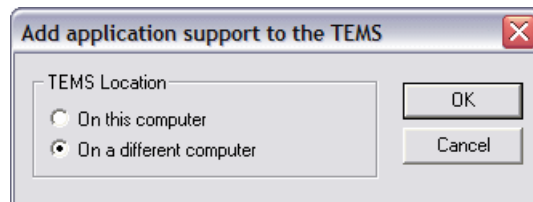

Figure 3-11 Add application support dialog
2. The dialog box shown in Figure 3-11 is displayed. As we are adding application support to a TEMS on z/OS, click the **On a different computer** radio button and click **OK**.